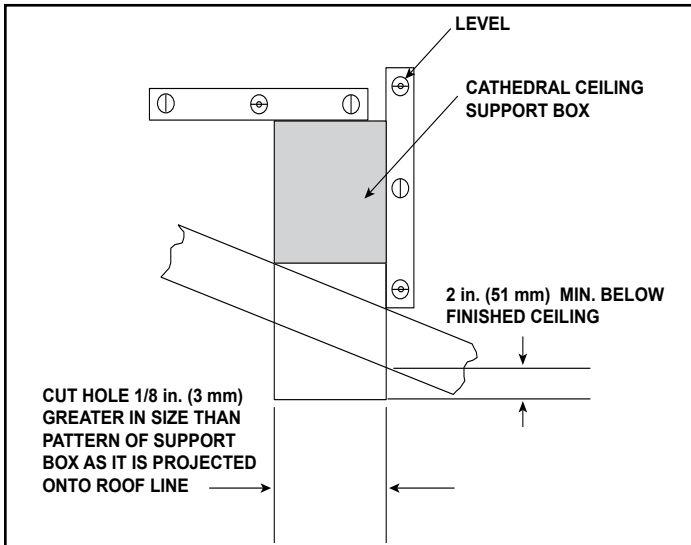

Figure 5.20
3. Lower the support box through the hole in the roof until the bottom of the support box protrudes at least 2 in. (51 mm) below the ceiling (Figure 5.20). Align the support box both vertically and horizontally with a level. Temporarily tack the support box in place through the inside walls and into the roof sheathing.